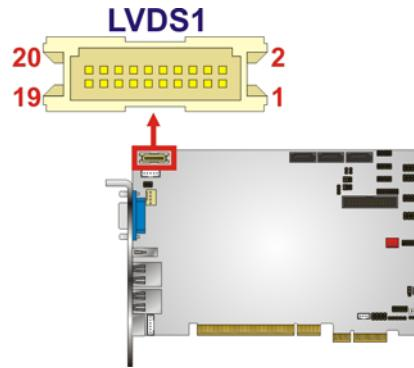

Figure 3-12: LVDS LCD Connector Pinout Location
**CN Location:** See Figure 3-12